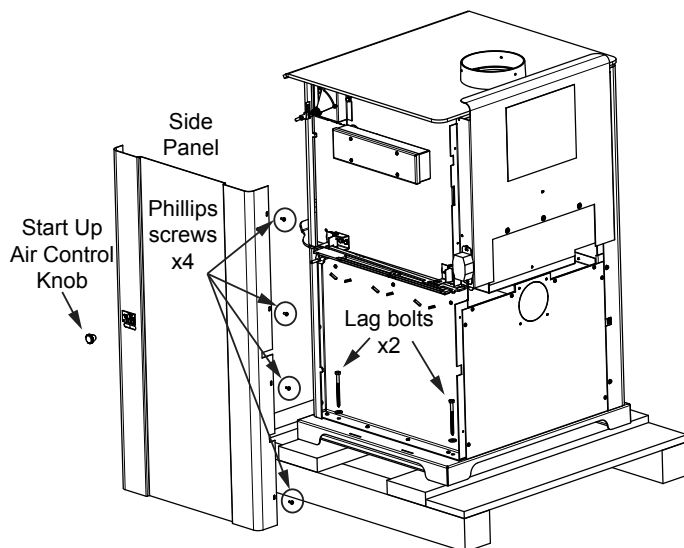

Figure 6.1
3. Using Phillips screwdriver remove four screws from back of appliance; set aside. Pull side panel off; set aside (**Figure 6.1**).
5. Reassemble side panel assembly (**Figure 6.1**).